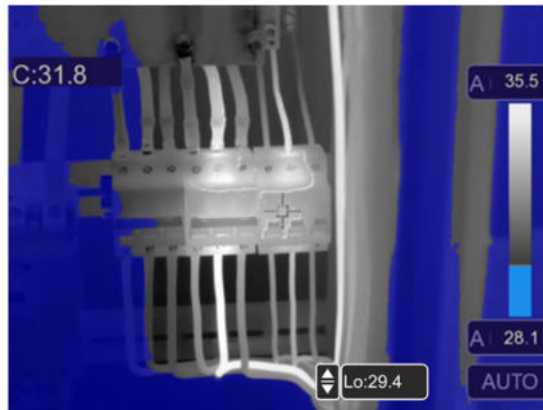

Fig. 41: Selection of isotherm line Alarm low Temp.
- Touch the “Lo” field at the bottom of the display and use the arrow keys ▲ or ▼ to set the value of the **minimum** temperature threshold below which the instrument shows image spots in blue colour, and the remaining spots in grey colour (see Fig. 41).